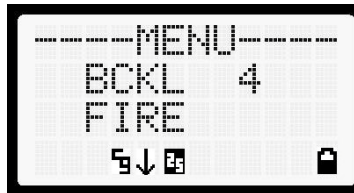

Figure 8-3: Backlight Menu Display
3. Press **[M]**. The backlight menu item is activated. Line one shows the active menu item and its current parameter setting. Line two shows the currently selected system or group name (see Figure 8-3).